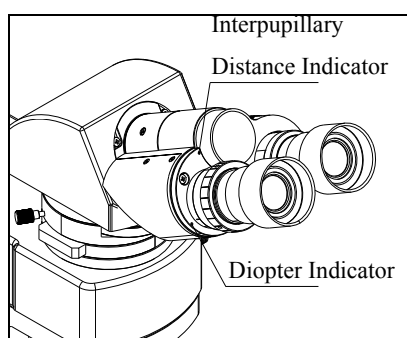

Fig.18
After the image is clear in the right eyepiece, observe the left eyepiece with the left eye. If the image is not clear enough, rotate the diopter adjustment ring① until the image is clear (See Fig. 18).